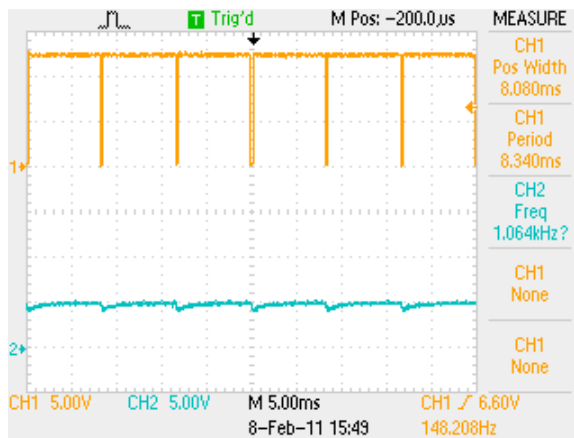
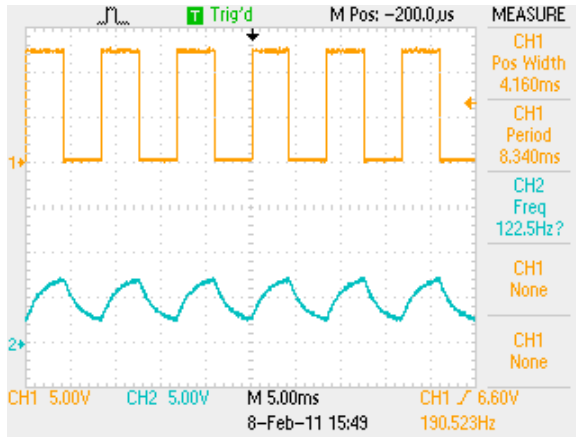

Figure 4 VCO control voltage and phase detector waveform, SIG HI = 5.0 Vdc
Figure 6 VCO control voltage and phase detector waveform, SIG HI = 2.75 Vdc
- 12.8. Observe the voltage at TP7 to verify that the PLL is in lock. The TP7 voltage should be (+/- .5V) centered at 5 Vdc with a variable amount of ripple dependent on the SIG HI signal. The TP7 ripple will be at its minimum value at the minimum and maximum SIG HI voltages, as in Figures 4 and 5, respectively. The TP7 ripple will be at its maximum value when the delay angle command is near  $\alpha = 90^\circ$  as in Figure 6. Sweep the SIG HI voltage over the full range to ensure that the average voltage does not deviate from 5 Vdc.